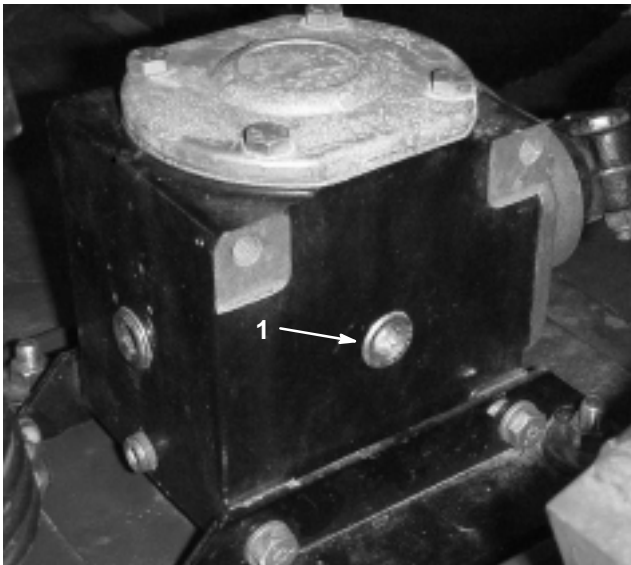

Figure 9
2. Remove the fill/check plug from the side of the gear box (Fig. 9) and make sure that the lubricant is up to the bottom of the hole. If the level of lubricant is low, add enough lubricant to bring it up to the bottom of the hole.